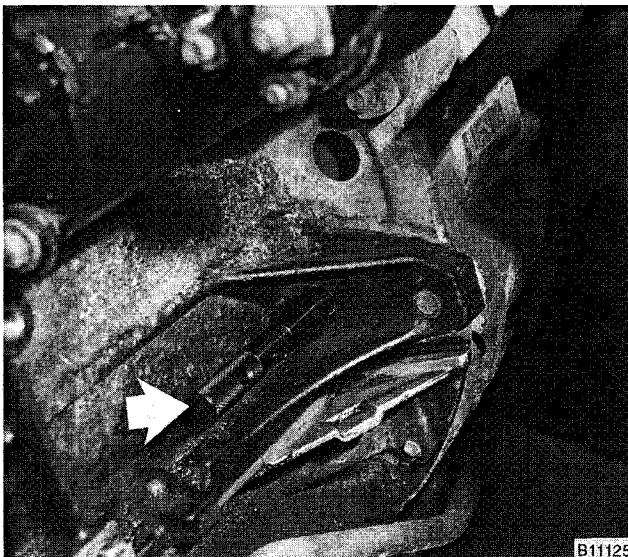
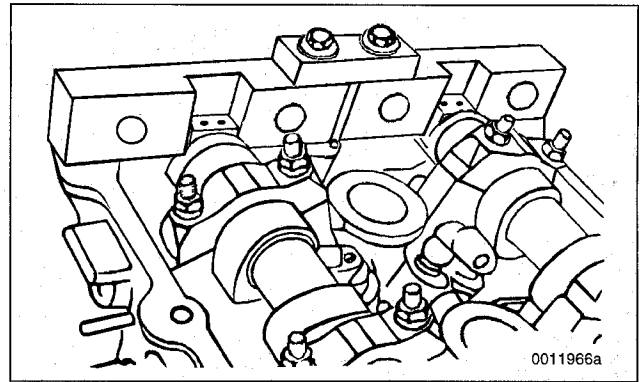

Fig. 23. BMW special tool no. 11 2 300 installed through bellhousing and into flywheel.
Fig. 24. BMW special tool no. 11 3 240 installed on rear of camshafts to position camshafts at TDC. (M44 camshafts shown. Other engines are similar.)
17. Lock crankshaft in TDC position by inserting BMW special tool no. 11 2 300 through transmission bellhousing and into hole in flywheel or drive plate. See Fig. 23.
19. Remove cylinder head cover mounting studs at rear of head. Lock camshafts at TDC using BMW special tool no. 11 3 240 at ends of camshafts. See Fig. 24..
The procedure outlined below assumes that the camshafts and the crankshaft are locked in the TDC installation position with special tools (shown earlier in Fig. 23 and Fig. 24).
On pre-VANOS engines (engines built up to 8-92), the camshaft locking tool (Fig. 24) should be raised up on either side by 3mm (use feeler gauge or drill bits). Be sure the clamping bolts on tool are loose and the center of the tool is contacting the cylinder head surface. This service campaign helps improve idle characteristics by reducing valve overlap.